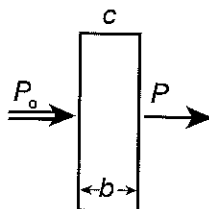

Figure 5.
The wavelength of light absorbed by a substance is characteristic of its molecular or electronic structure. The intensity of light absorbed depends on the amount of the substance in solution. Generally, the more concentrated the solution, the more intense the color will be, and the greater the intensity of light the solution absorbs. A digital spectrophotometer measures both the percent transmittance of light and the absorbance. When light is absorbed, the radiant power (P) of the light beam decreases. Transmittance (T) is the fraction of incident light (P/P_0) that passes through the sample (see Figure 5). The relationships between transmittance and percent transmittance (% T) and between transmittance and absorbance (A) are given in Equations 1 and 2, respectively.